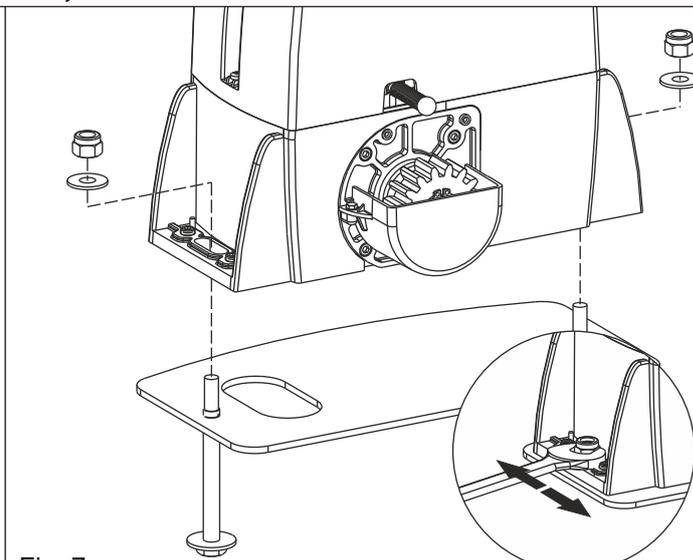

Fig. 7
4.2. Fix the gear motor to the foundation plate using the 2 included nuts, adjusting the side position (Fig. 7) so to respect the shown quota in Fig. 4